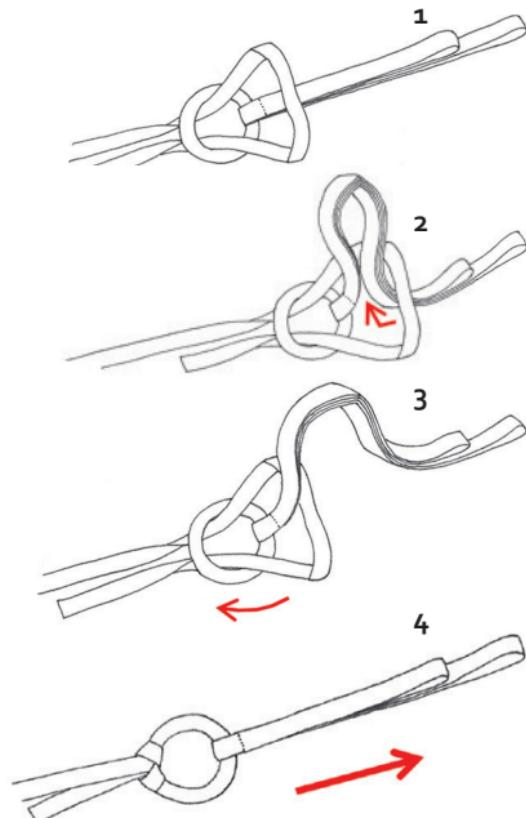

Fig. 14
- Pick up the remaining line and run it through the ring of the pulling aid (Fig. 14, 1).
- Continue as shown in Fig. 14, 2–4.